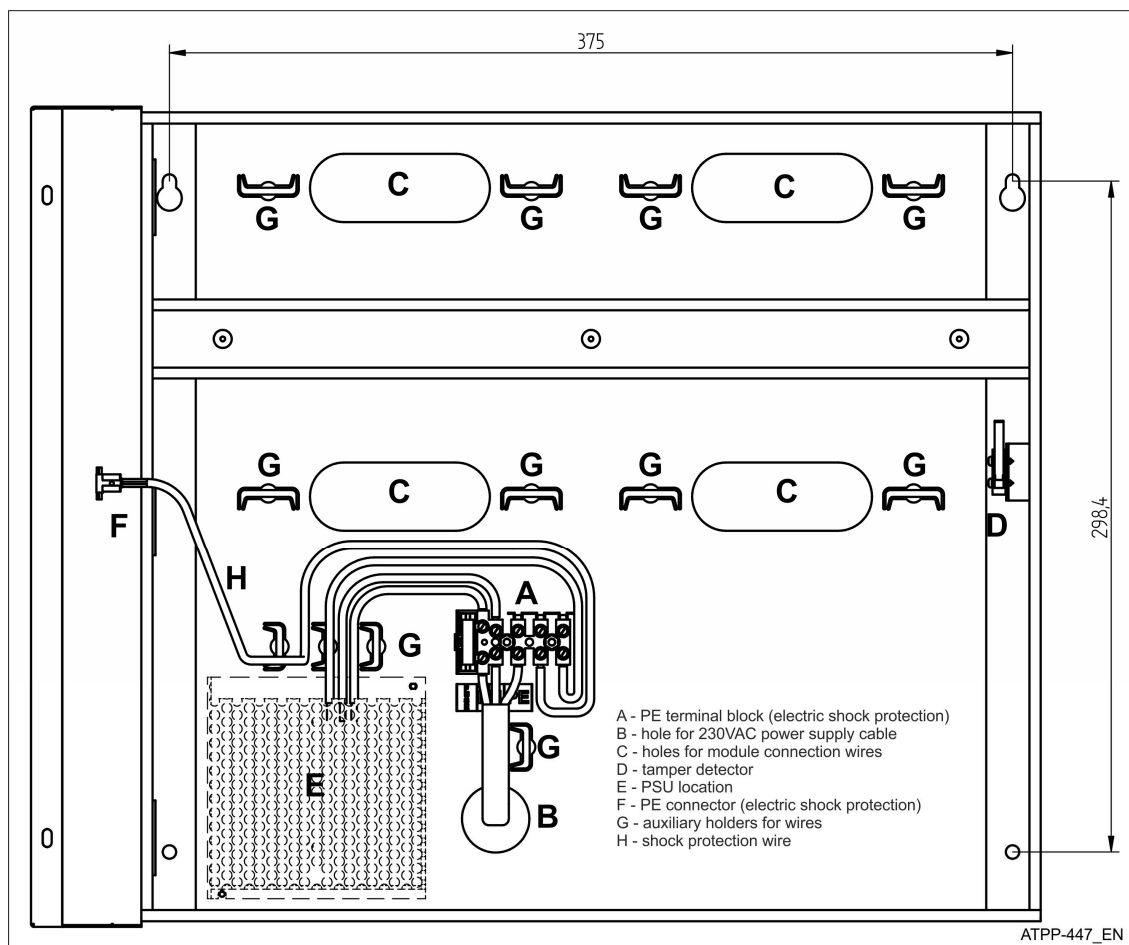

Fig. 2 Internal view of ME-40 enclosure
6. Protective wire M connected to the terminal block A, should be connected to the F connector of the anti-shock protection PE located on the enclosure door (Fig. 2).